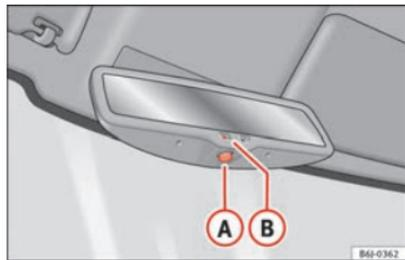

Fig. 83 Automatic anti-dazzle interior rear vision mirror.
- Press button **A** ⇒ Fig. 83. Control lamp **B** goes off.
- Press button **A** ⇒ Fig. 83. The control lamp lights up.